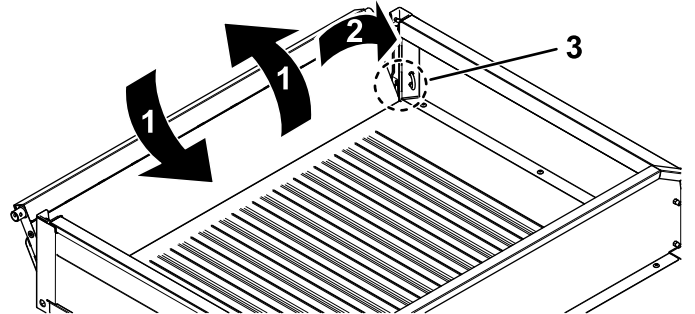

Figure 83
2. Rotate the tailgate to approximately the 45° position (Figure 83).
3. Use a short, shaking motion to rotate the tailgate back and forth several times (Figure 83).